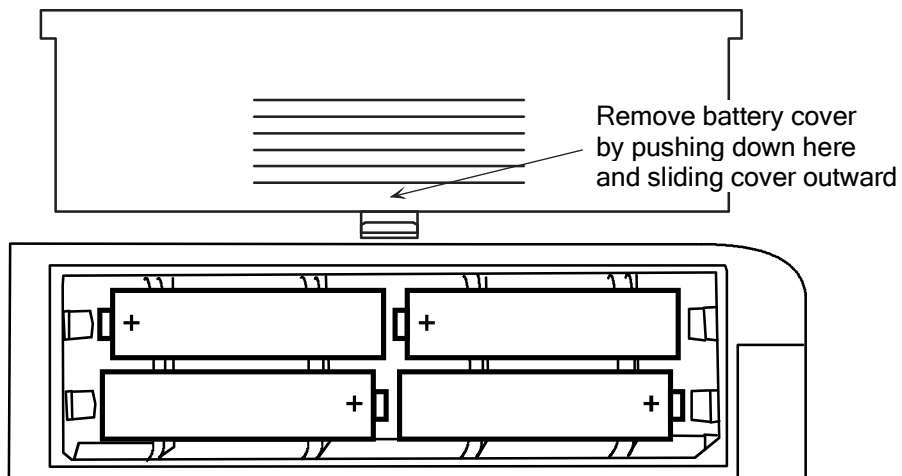

Figure 3-1. Battery Installation
3. Observing the polarity markings inside the battery compartment, install four 'AA' Alkaline batteries as shown in Figure 3-1.